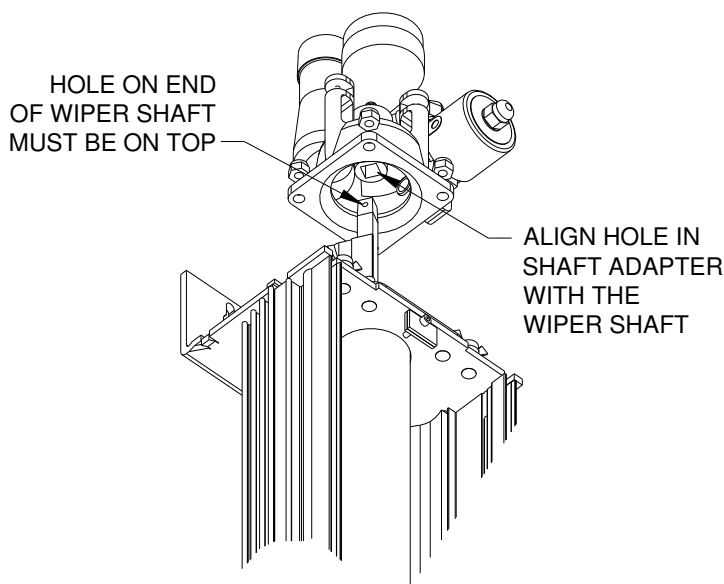

Figure 4E
Step 3: Once the quartz is clean, reassemble the unit (see Figure 4E). Replace any seals that appear to have been damaged.
Step 1: Replace the wiper assembly (12) carefully in the quartz sleeve. The hole on the end of the shaft must be up. Turn the wiper assembly counter-clockwise (looking from the top) as it is being inserted into the quartz – this will make the task easier and align the wiper blades properly. Wetting the inside of the quartz with water will also make the task easier.
Step 2: Ensure the quartz O-ring seal is in place around the quartz sleeve and then replace the top quartz seal assembly by aligning the shaft adapter with the wiper shaft (see Figure 4E). Rotate wiper shaft CCW to suit.
Step 4: Reconnect the flexible hoses (8), both top and bottom. Close the front panel.